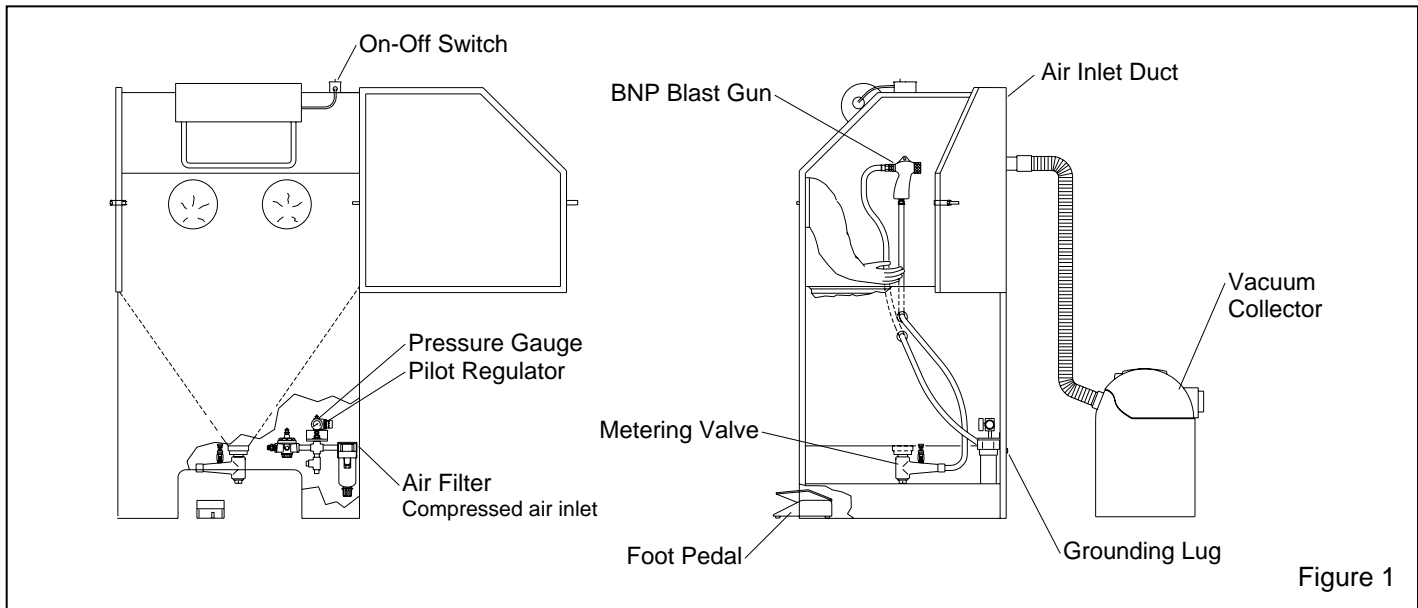

Figure 1
1.3.1 See Figure 1 for arrangement of components. INEX blast cabinets enclose the blasting environment to provide efficient blast cleaning while maintaining a clean surrounding work area. Production rates are influenced by size of nozzle, compressor output, working pressure, type and size of media, angle and distance of the nozzle from the blast surface. INEX cabinets consist of two major components:
**2.1.1** See Figure 1 for the general arrangement. Place all components in a convenient location where compressed air and electrical services are available. The cabinet location must comply with OSHA and local safety codes. Allow for full access to all doors and service areas, and for efficient handling of large parts. Determine the best location, and position all units before final assembly.